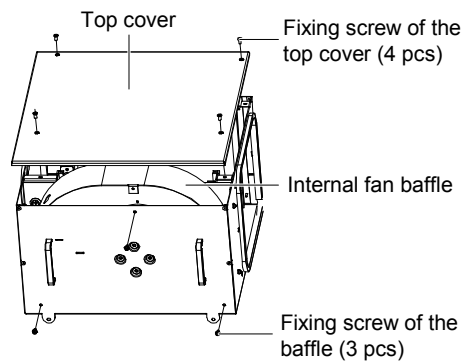

Figure 5-5 Removing the top cover and internal fan baffle
Step 1: Disconnect the cable connector at the left side of the heat exchanger, as shown in Figure 5-5. Do not disconnect the cable frequently when power is on.
Step 2: Loosen the fixing screws shown in Figure 5-5 and then remove the heat exchanger from the cabinet. For the north model outdoor cabinet, take out of the heater from the equipment compartment (refer to 5.3.5 *Replacing Heater And Heating Unit* for detail method) first, and then remove the heat exchanger from the cabinet.
Step 3: Loosen the screws that fix the top cover and the internal fan baffle and then remove the top cover and the internal fan baffle, as shown in Figure 5-5.